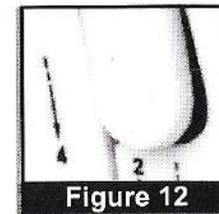

Figure 12
4. Guide the thread into Groove 2, and pull toward the chrome take-up lever. (Figure 12)